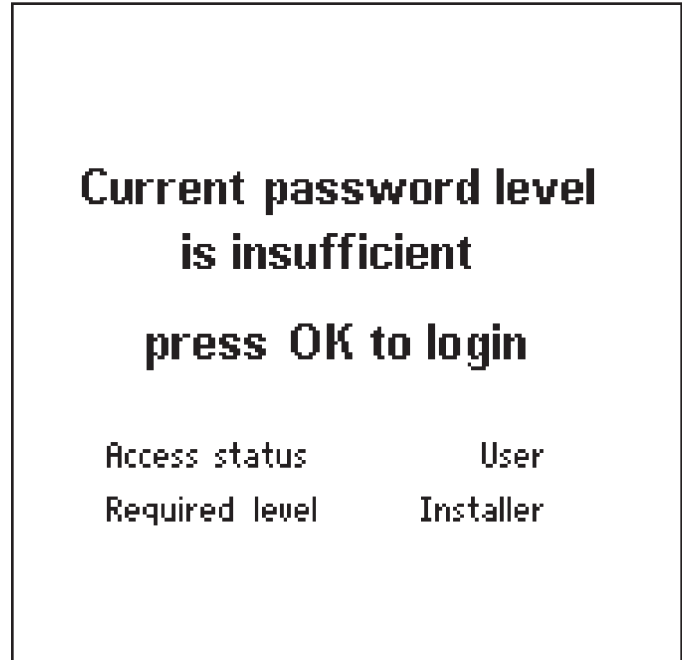

Fig. D5-6 – Password required
- If you try to change a function that requires a password, the unit will prompt you to log in. See Fig. D5-6.